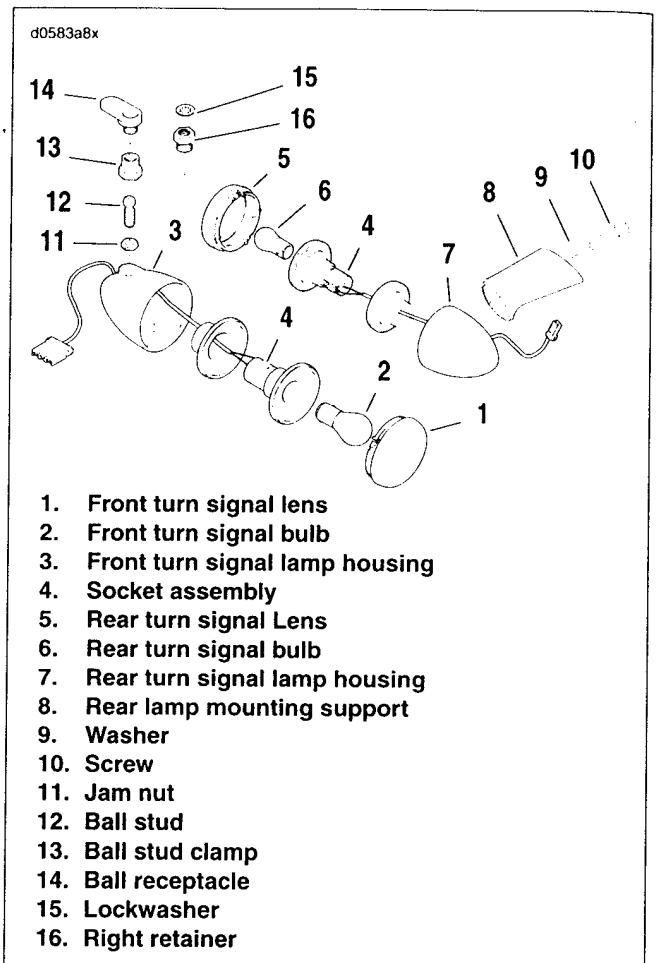

Figure 8-41. FXD, FXDX, FXDL, FXDWG Turn Signals
1. Front turn signals: see Figure 8-41. On right side, hold right retainer (16) and loosen ball stud clamp (13) to remove turn signal. On left side, remove acorn nut from mirror, loosen jam nut (11) and remove ball stud clamp (13) to detach turn signal.
2. Rear turn signals: Remove the lamp support (8) by removing the screw (10) and washer (9) inside the rear fender, then the lamp housing (7) can be removed from the support (8).